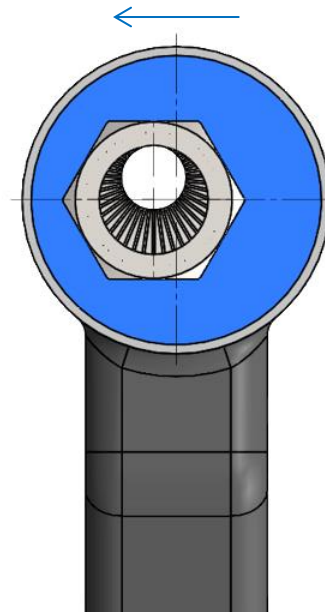
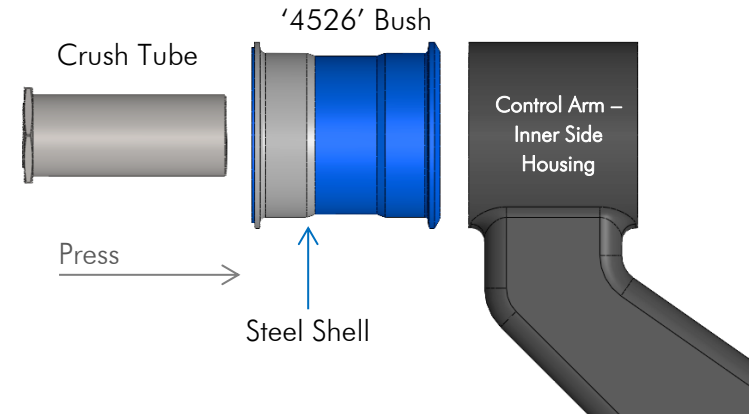

Figure 01 – RHS Control Arm Inner Side Front View
Figure 02 – RHS Control Arm Inner Side Top View
- Push the new '4526' bushes according to the Figure 02, and with reference to the Figure 01, adjust the new bush with the offset bore towards the ground of the vehicle before pressing the steel shell part into the arm. **Note** that the steel shell is the last part of the bush to be pressed into the housing;
- Apply the white grease supplied to the bore of the bush and outside of the crush tube, and push it in, Figure 02;
- With reference to the Figure 02, adjust the new crush tube with the spanner provided to give the desired camber result;